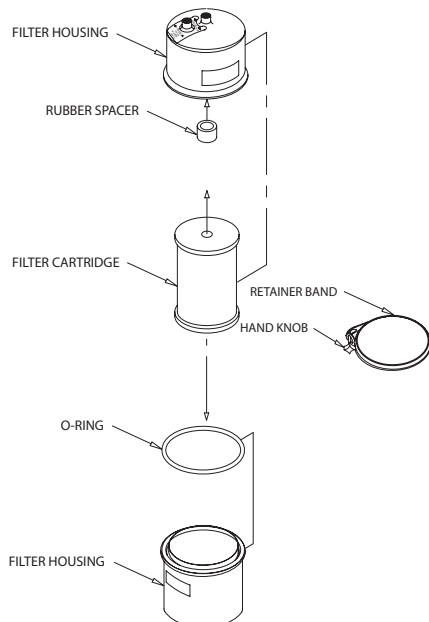

Figure 2
- Push the rubber spacer onto the threaded stud located inside the top half of the filter housing (see figure 2).
- Wearing sterile gloves, remove the filter cartridge from the sterile packaging and screw it onto the threaded stud (see figure 2). **DO NOT OVER-TIGHTEN!**
- Lubricate the o-ring with a non-petroleum lubricant and place it on the bottom filter housing flange (see figure 2).